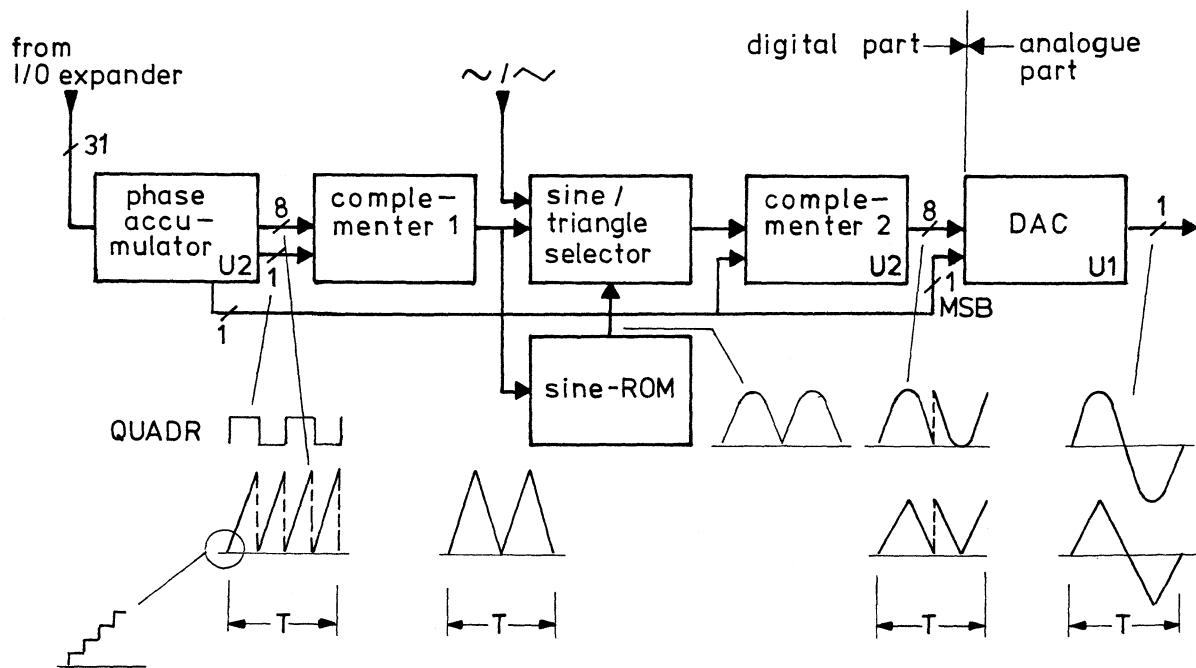

Fig.10: PM 5190, principle of signal generation
4.5. DIGITAL SIGNAL SYNTHESIS (figs.10, 45)
The block diagram for producing a binary sequence of numbers which corresponds to a sine or triangle signal, is depicted in fig.10, see overleaf.